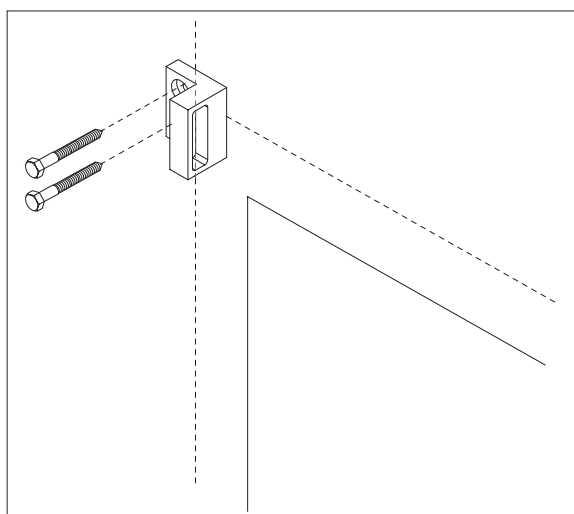

Figure 4
6. Attach the end bracket using two lag screws (provided) using a socket wrench with 9/16" socket. (Figure 4).